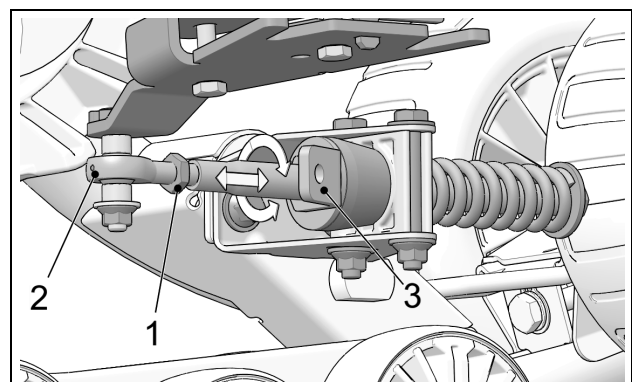

Figure 6
- Loosen jam nut (1). Adjust length of rod end (2) by rotating the steering limiter support plate on (3) the stabilizing arm. Use a 30 mm wrench to rotate support plate to obtain a perfectly centered bubble in the level. Figure 6.